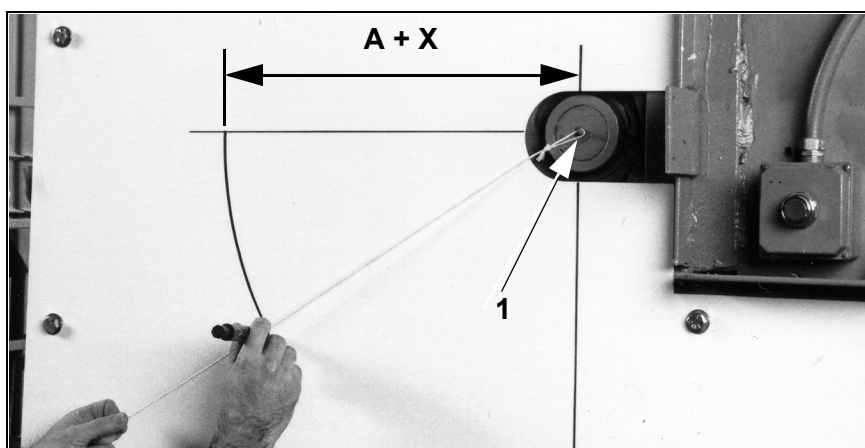

Fig. 1: Marking of the installation radius
3. Mark the vertical and horizontal centre line of the driving drum on the operator side of the chute wall to determine the centre point (1, Fig. 1) of the driving drum. The vertical line must run at a right angle with respect to the conveyor belt line.
- Draw the arc of a circle with the dimension determined in step 5 around the centre of the chute wall (1, Fig. 1).